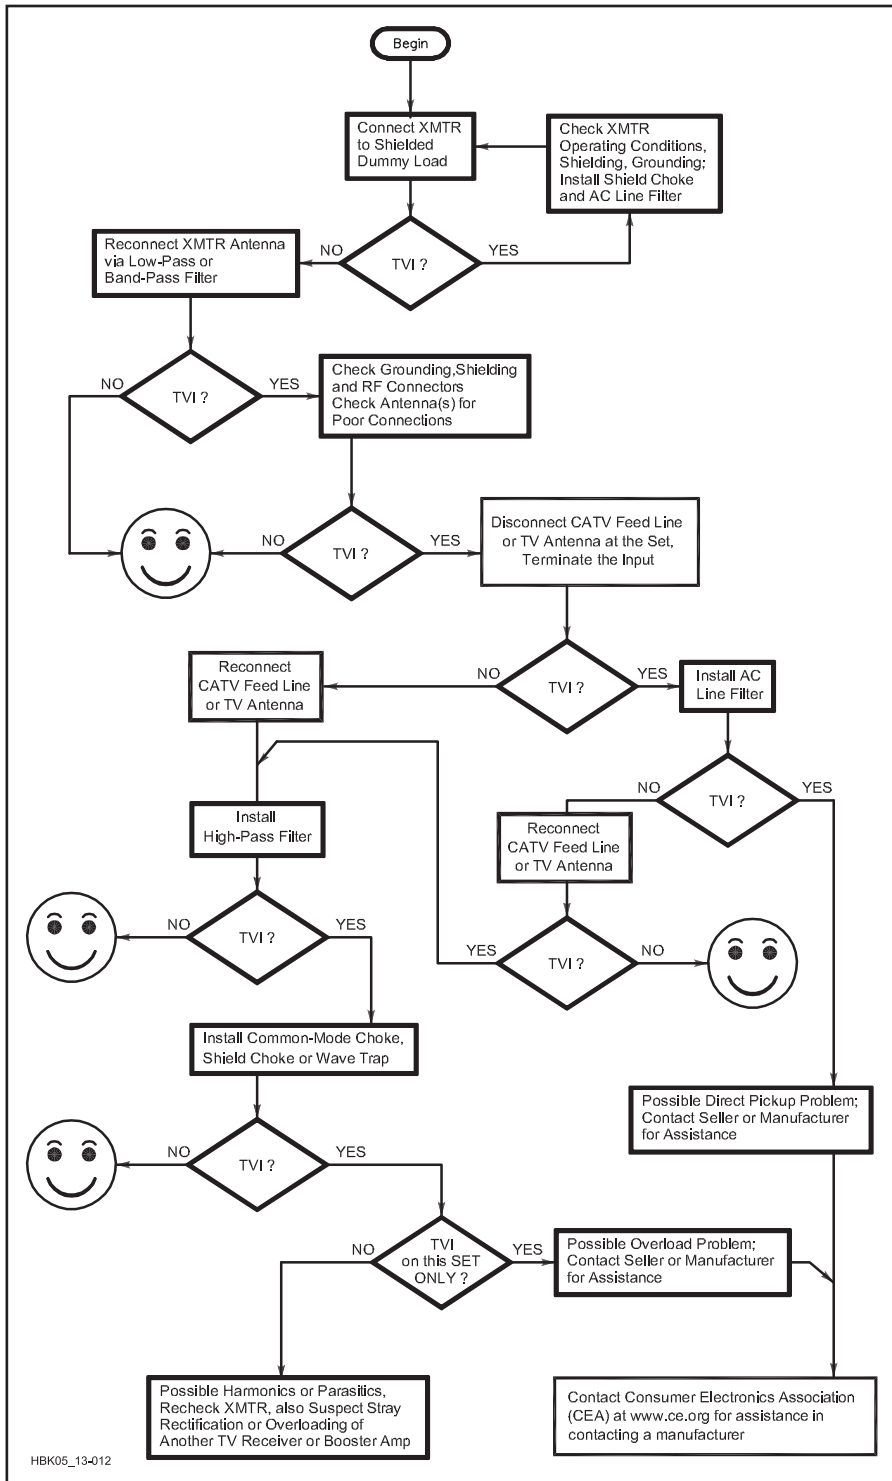

Fig 27.19 — TVI troubleshooting flowchart.
All of these problems are made potentially more severe because TV receiving equipment is hooked up to *two* antenna systems: (1) the incoming antenna or cable feed line and (2) the ac power line and interconnecting cables. These two antenna systems can couple significant levels of fundamental or harmonic energy into the TV set or video display! The *TVI Troubleshooting Flowchart* in **Fig 27.19** is a good starting point.